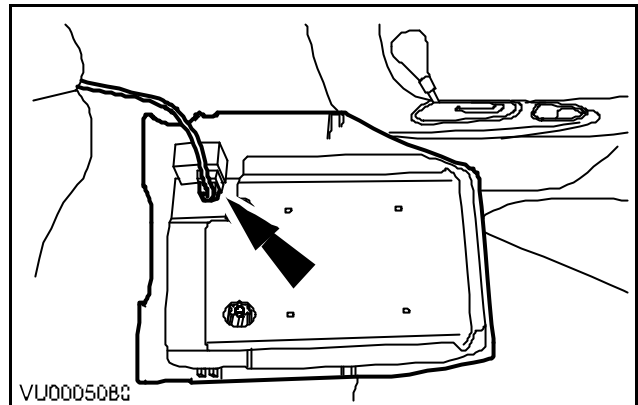

Fig. 6
- 11 Install steering column control switch electrical connector. (See Fig. 6)